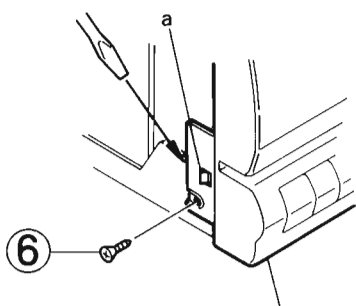

Fig. 5-6 Front cover ass'y (Left)
3. Remove the two screws (6) retaining the right, left and lower sides of the front cover ass'y (Refer to Figs. 5-6 and 5-7).
4. Disengage the four engagements (a, b, c and d) fixing the right, left and lower sides of the front cover ass'y and the bottom of the ass'y (Refer to Figs. 5-6, 5-7 and 5-8).